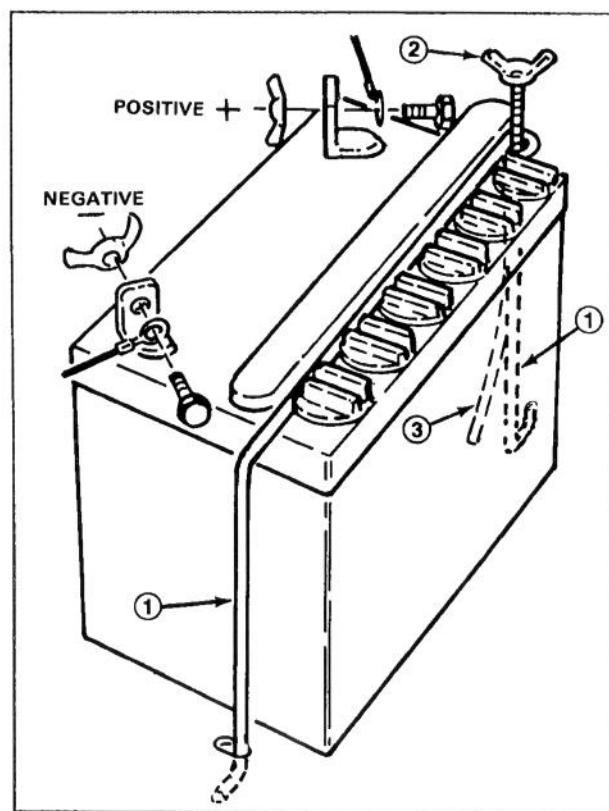

Figure 3
1. Remove wing nut securing battery hold downs to rider chassis (Fig. 3).
7. Reinstall the battery with terminal posts toward the rear of the machine and vent tube thru hole in frame (Fig. 3).
9. Reinstall the positive cable to the positive (+) terminal and the negative cable (black) to the negative (-) terminal of the battery and secure with capscrews and wing nuts (Fig. 3).